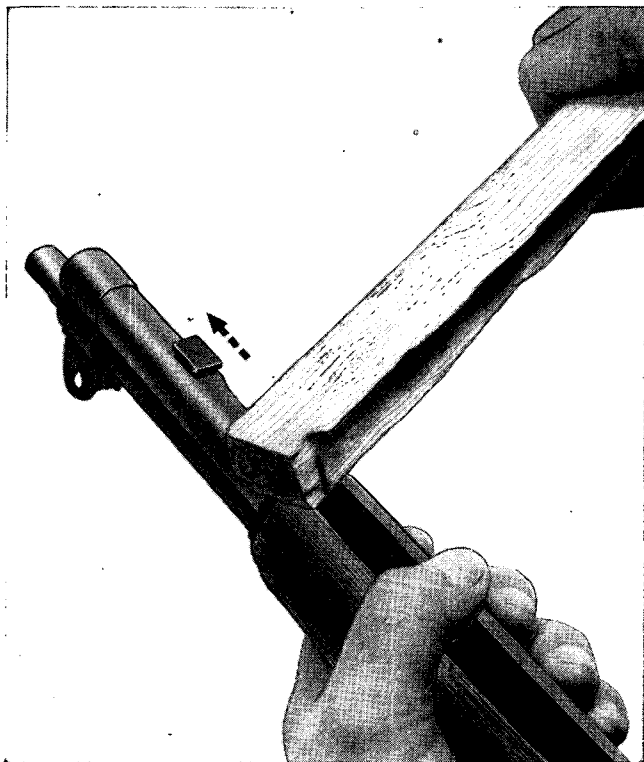

Figure 29. Removing the gas cylinder.
b. Do not remove the gas cylinder except when necessary. Before removing the gas cylinder, be sure that the operating rod has been removed. To remove the gas cylinder, tap lightly toward the muzzle on the *bayonet stud* with a piece of wood or similar soft object until the gas cylinder is loosened. Remove the gas cylinder (fig. 29). Be careful that the splines are not burred or dam-